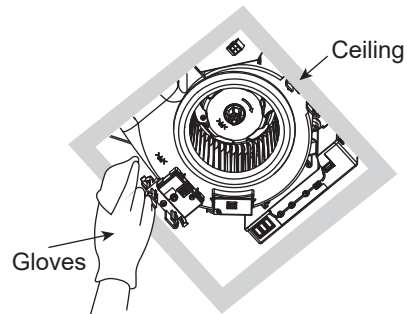

Fig. 20
5. Using a cloth dampened with kitchen detergent; remove any dirt from fan body. Wipe dry with clean cloth. See Fig. 20